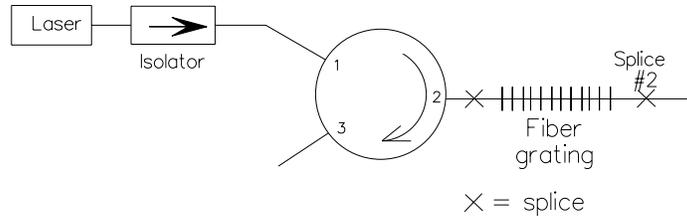

Figure 1: Component connection for Problem 3.
3. A laser operating at 1550 nm is connected to an isolator, a circulator, and a fiber Bragg grating as shown in Fig. 1 on the following page. The power in the fiber at the laser is 1 mW. All splices shown have a loss of 0.5 dB and a return loss of 12 dB. The properties of the isolator are given in Table 1. The port-to-port losses (in dB) of the circulator are given in Table 2 on the following page.